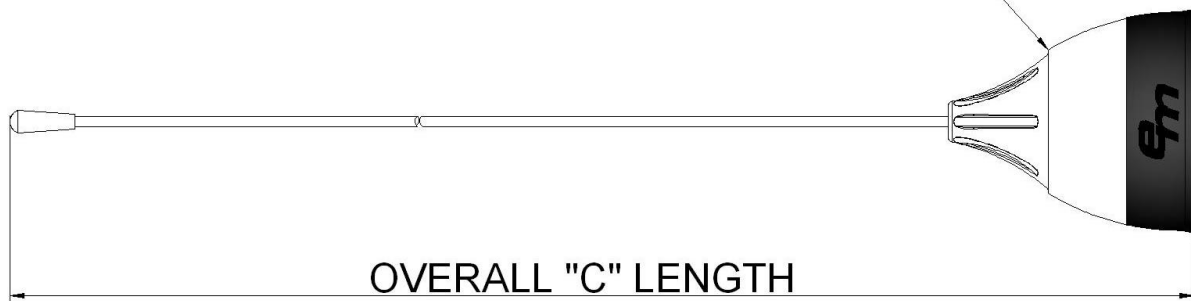

Figure 1
3. **Automatic Car Wash Note:** For optimal protection of the NMO vehicle mount, **DO NOT** remove the NMO antenna base adapter, exposing the NMO mount. Detach **whip only** by loosening the threads of the whip at the antenna adapter (See Figure 1). After car wash, dry the antenna base stud with a cloth and re-install the whip to the NMO antenna adapter using firm finger tight grip.